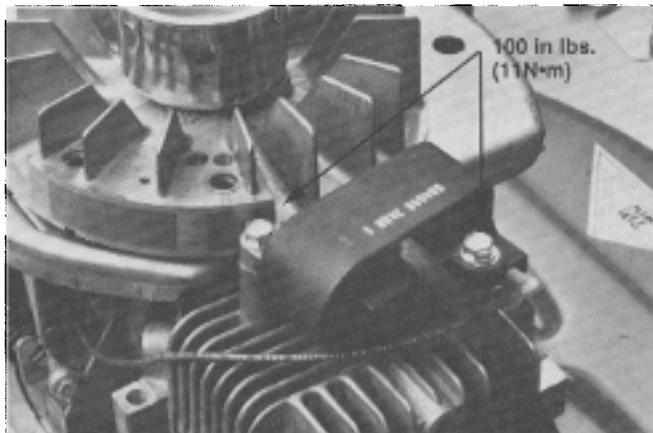

Figure 50
2. Remove screws, replace CD Pack and set gap as outlined in step 1 above. Tighten screws to a torque of 100 in. lbs (11 N•m) (**Figure 50**).